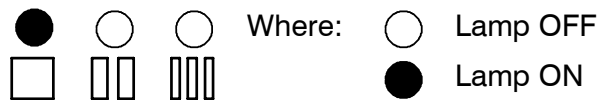

Fig. 7.7
- 6 The lamps 10 should give the indication as in Fig. 7.7. If not, press the reset button 7 repeatedly to obtain it.